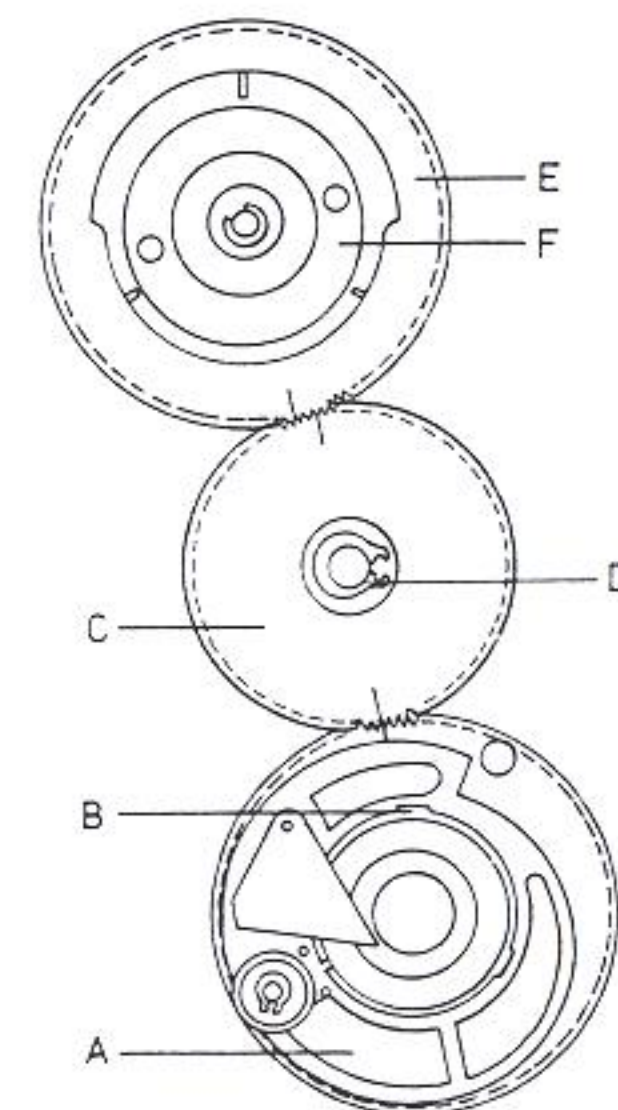

Fig. 3
7. Exchange of the gear wheels of the servo-gear (see figure 3)